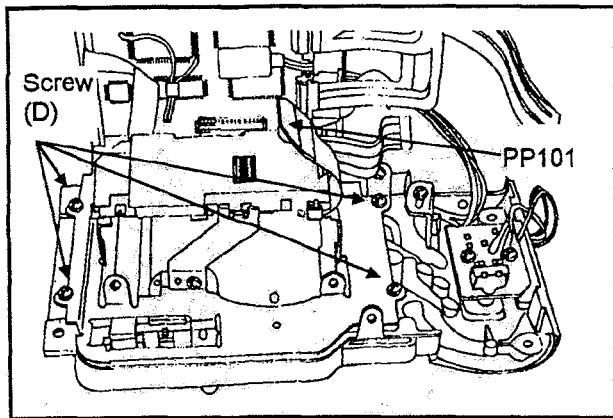

Fig. CCD4
6. Disconnect PP101 on the Sensor C.B.A. (Fig. CCD4)